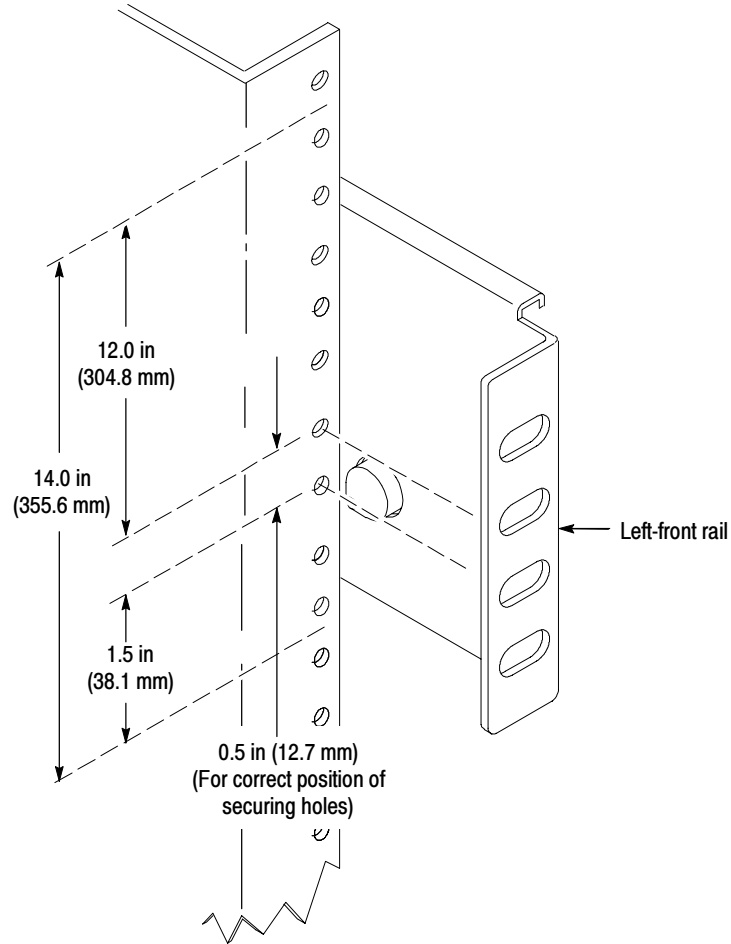

Figure 3: Vertical clearance for rack installation (standard mainframe)
6. Select the mounting position in the rack: select two 0.5-inch spaced holes in the front rail and verify that the 1.5-inch and 13.25-inch clearances exist relative to the mounting holes as shown in Figure 3.